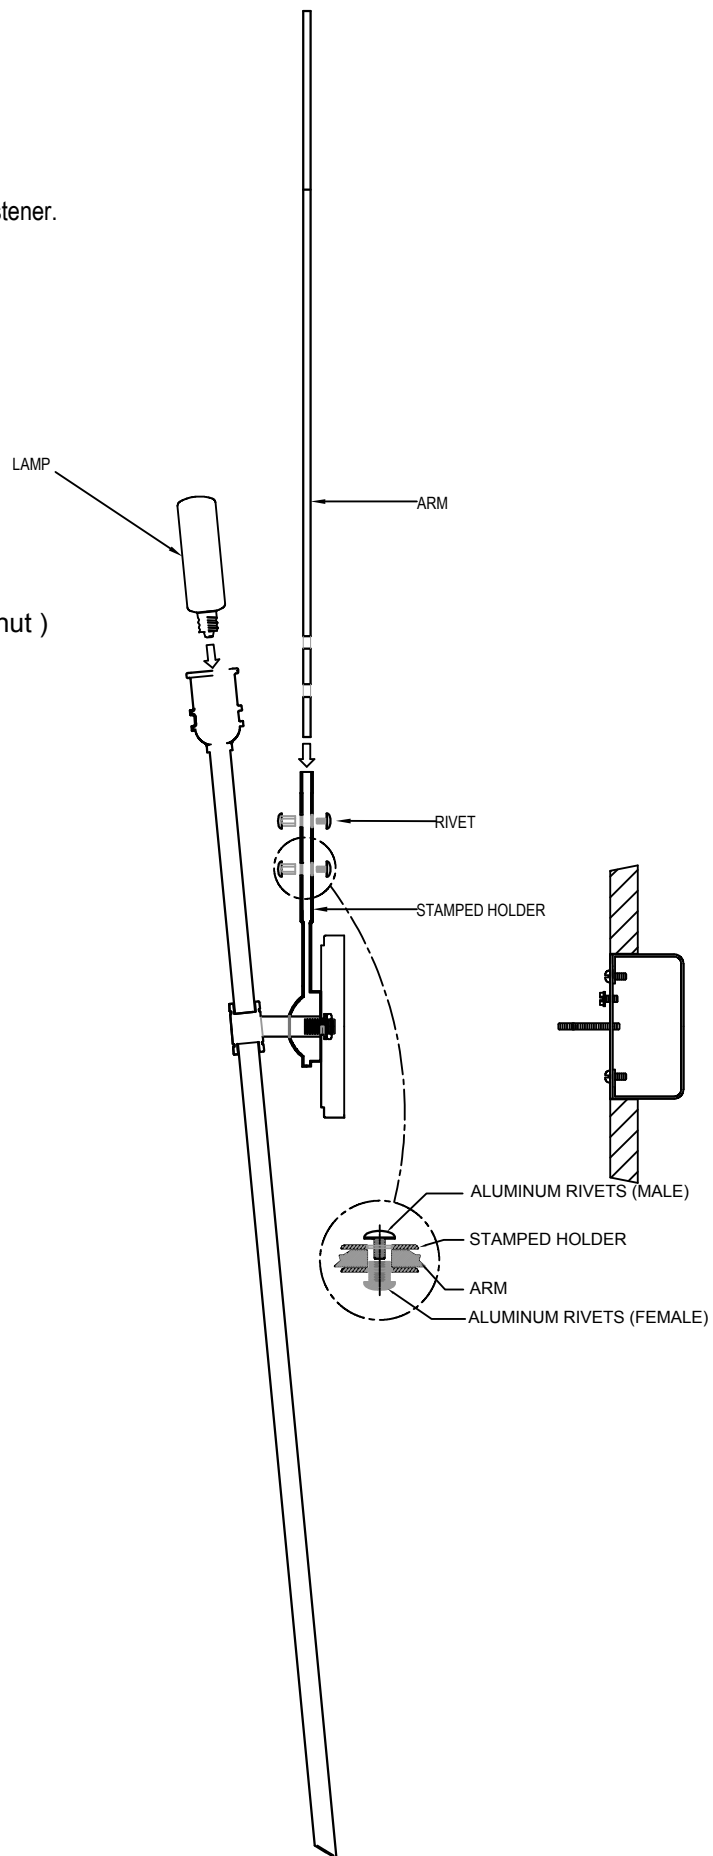

FIGURE-2
5. Using the two (2) screws, fasten the fixture to the outlet box.
6. Insert the arm to the stamped holder using rivet. (See Figure-2)